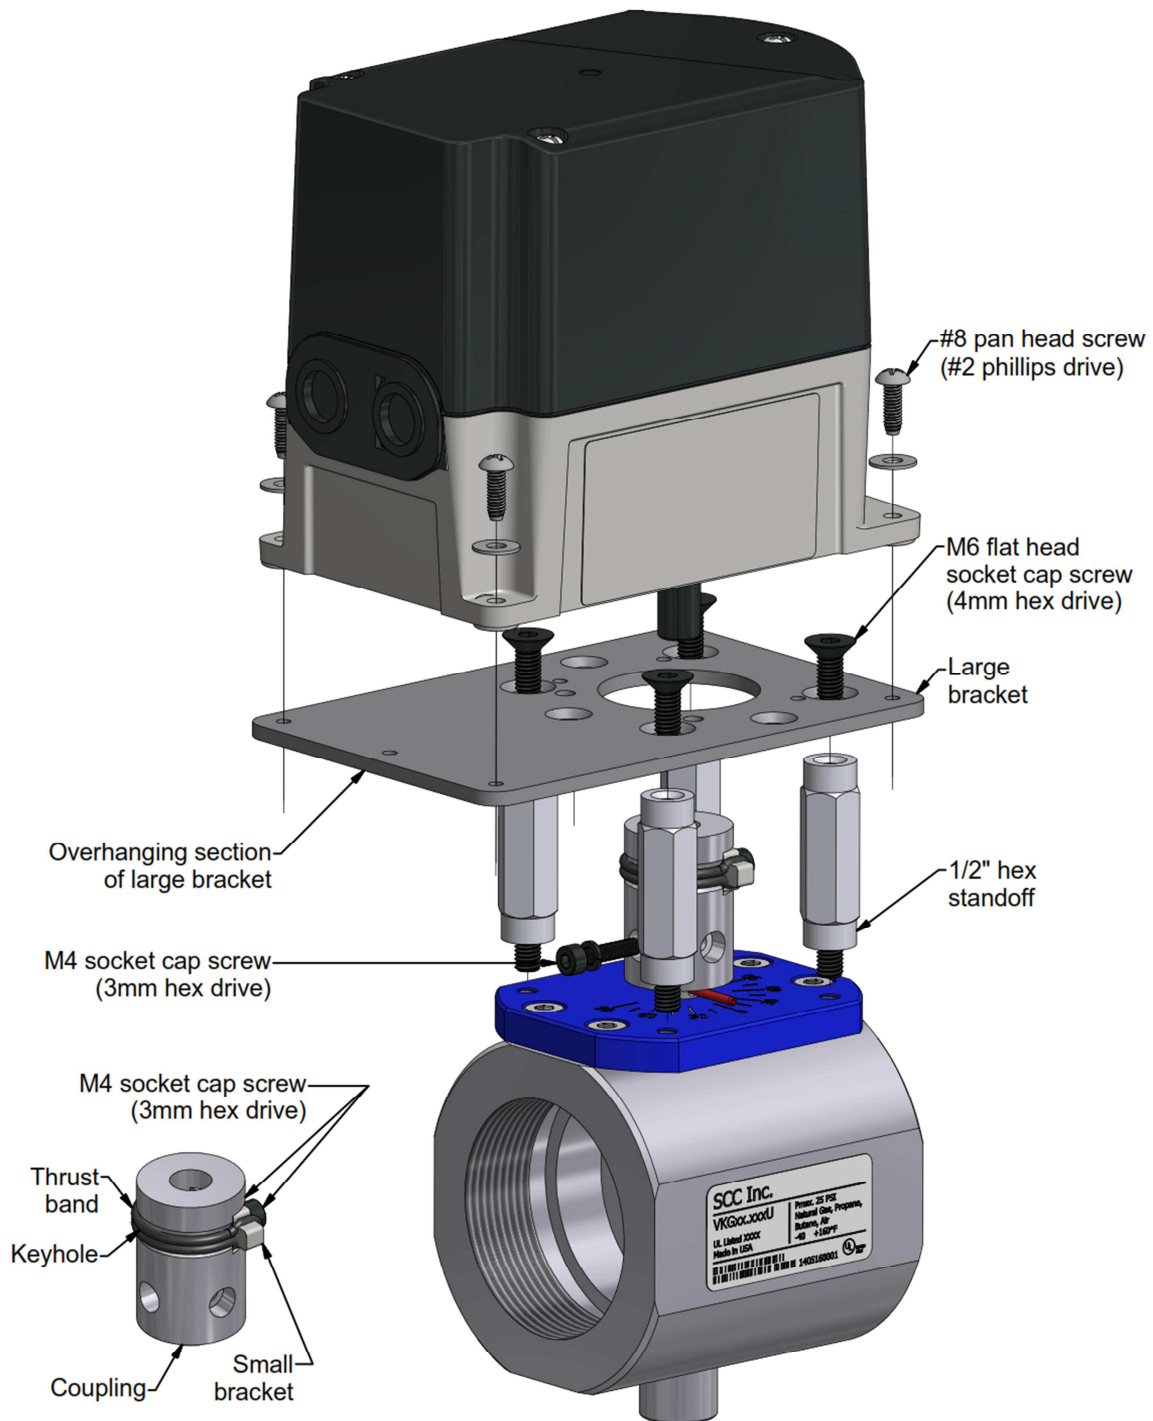

Figure 1: Exploded View of VA45.2-NF-200
In some cases, the actuator may need to be removed from the valve temporarily during piping. Additionally, the actuator and bracket can be rotated relative to the valve for wiring purposes. The instructions below and the exploded views in Figures 1 and 2 are a guide to proper disassembly and reassembly of a VA... valve actuator assembly with a VKG... butterfly valve.
7. **If the (4) 1/2" hex standoffs were removed in step 6**, thread them back into the threaded holes on top of the valve and tighten with a crescent wrench. **If the coupling was removed in step 6**, slide the coupling back over the valve shaft. Insert the M4 socket cap screw and lock washer through the coupling and valve shaft so that the coupling is in the desired position of the (4) clockable positions. The valve should still be at the closed / 0° position.
8. Fasten the large bracket back onto the standoffs with the (4) M6 flat head socket cap screws (4mm hex drive) so that the overhanging section of the large bracket is on the opposite side of the coupling as the small bracket.
9. Insert a small flat head screwdriver into the keyhole (see Figure 1) between the thrust band, and with the other hand, grab the actuator and push it into the coupling until the actuator shaft clears the small bracket. Remove the screwdriver from the keyhole.
11. Fasten the actuator to the large bracket with the (4) #8 pan head screws (#2 phillips drive) and associated washers. Then, tighten the (2) M4 socket cap screws (3mm hex drive) to secure the small bracket to the flat of the D-shaft.